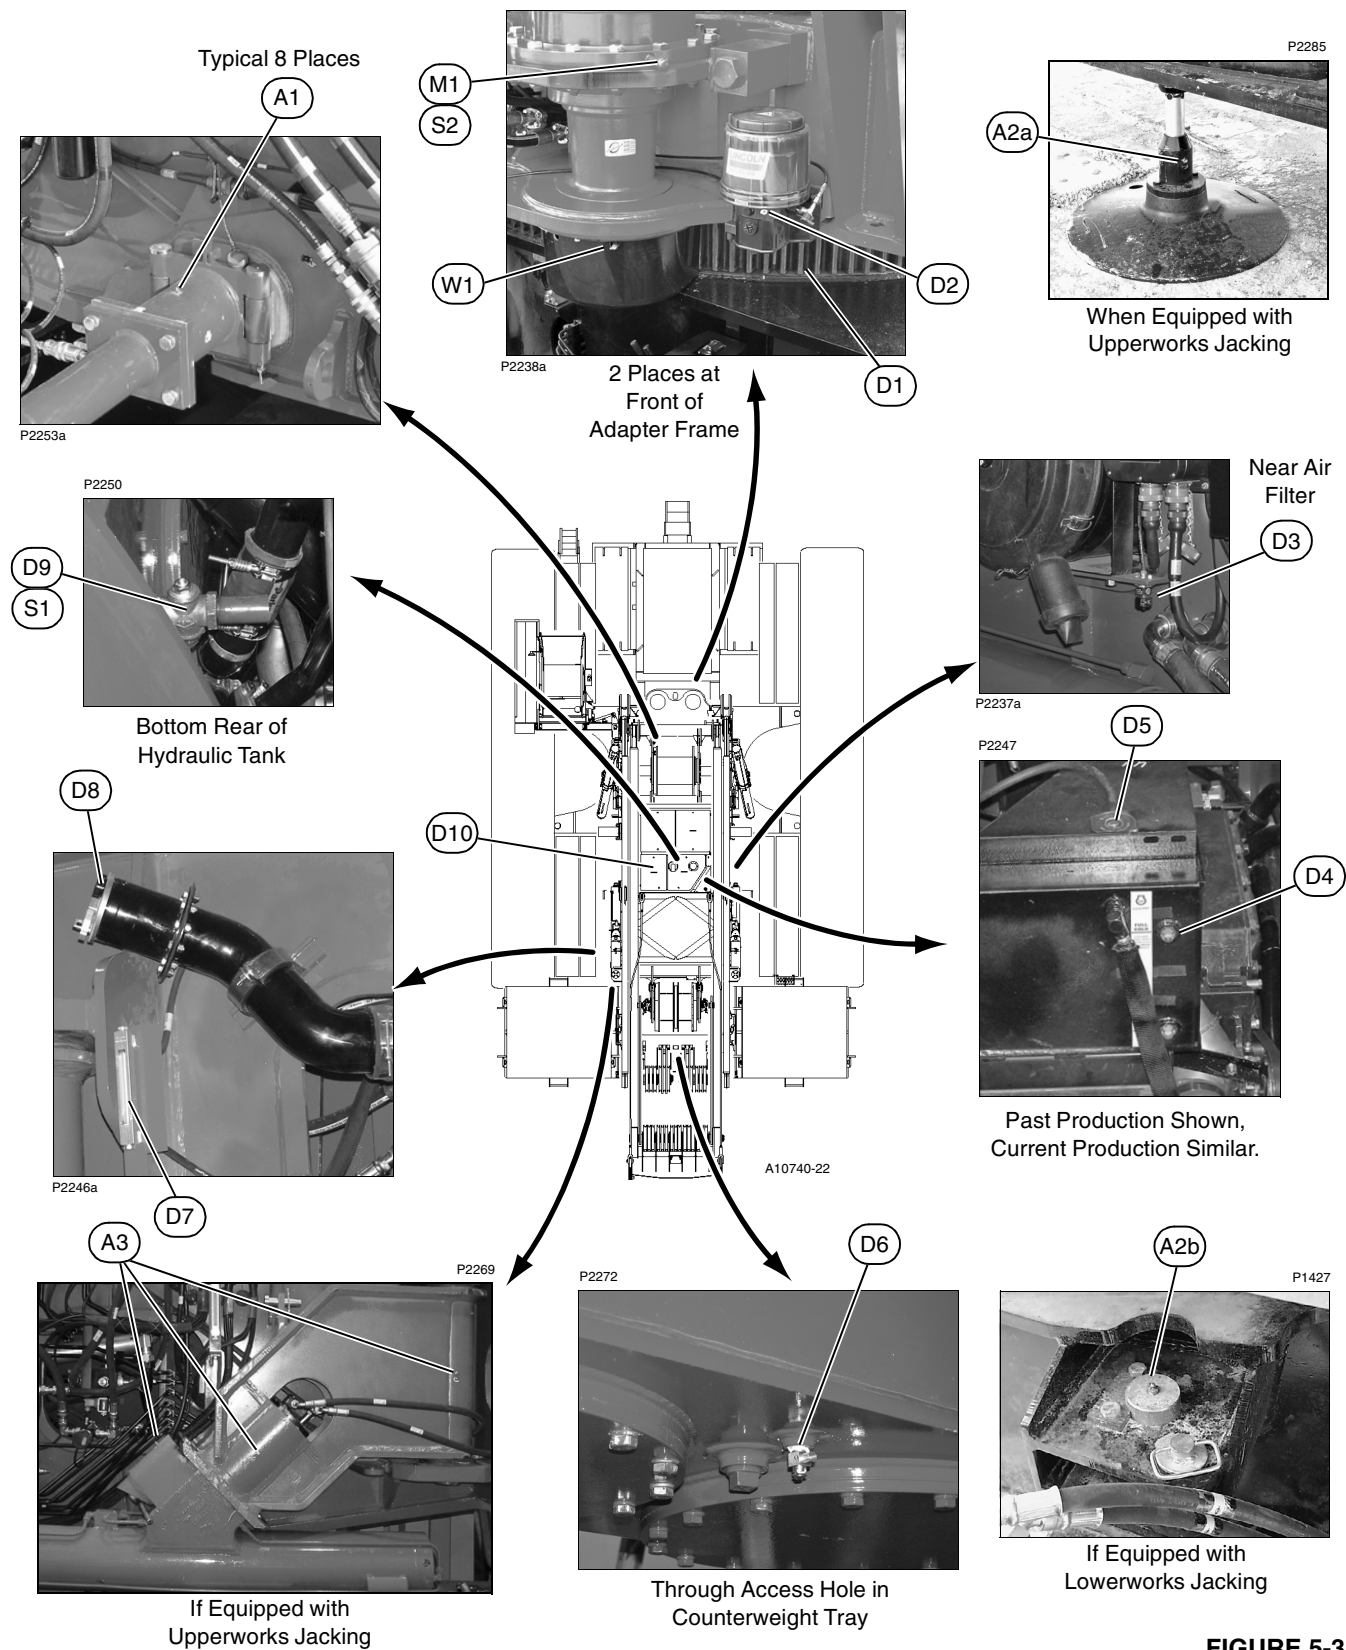

FIGURE 5-3
- See Figure 5-3 through Figure 5-6 for location of the lubrication points for the crane.